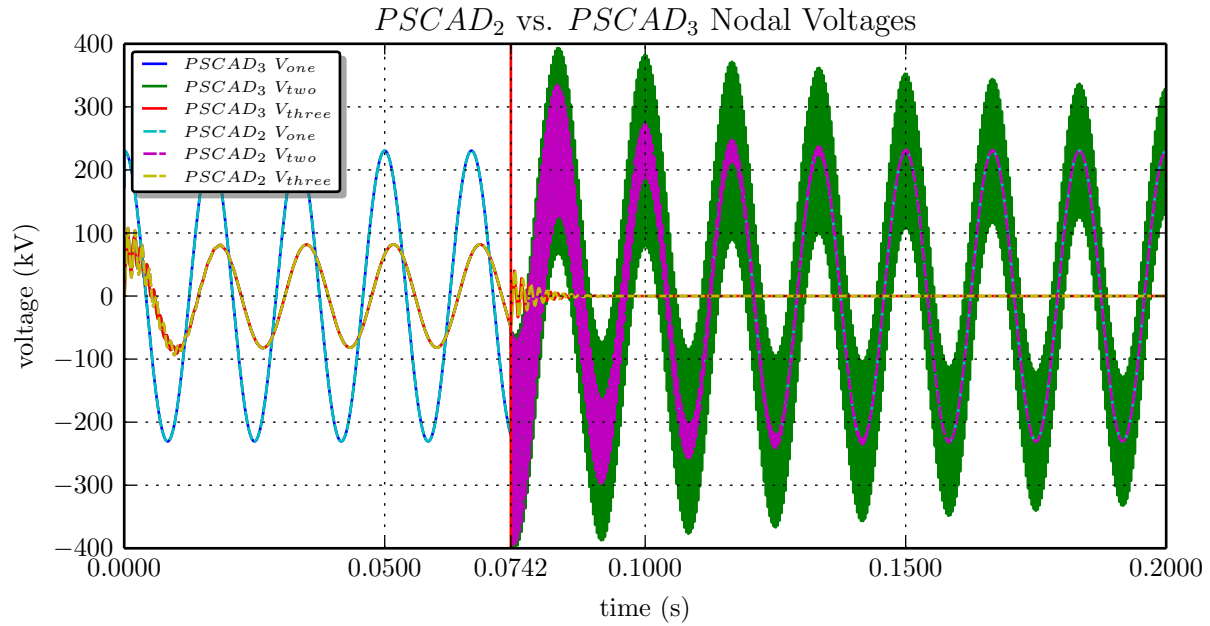

Figure 13: Plots of V_{one} , V_{two} , and V_{three} nodal voltages
- a) Plots of V_{one} , V_{two} , V_{three} for the simulation and PSCAD (Figure 13).